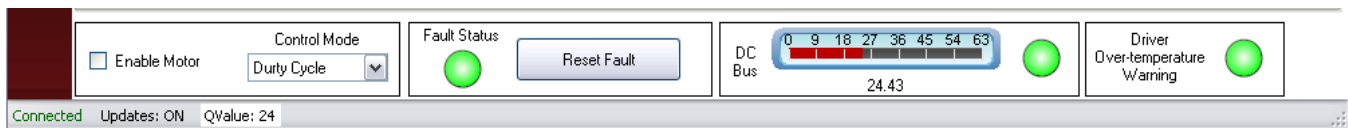

Figure 9. Verify Connection
- The GUI should automatically connect. Verify by viewing "Connected" in the lower left hand corner (see Figure 9). Also verify that the Fault Status, DC Bus, and Over-temperature Warning lights are green.